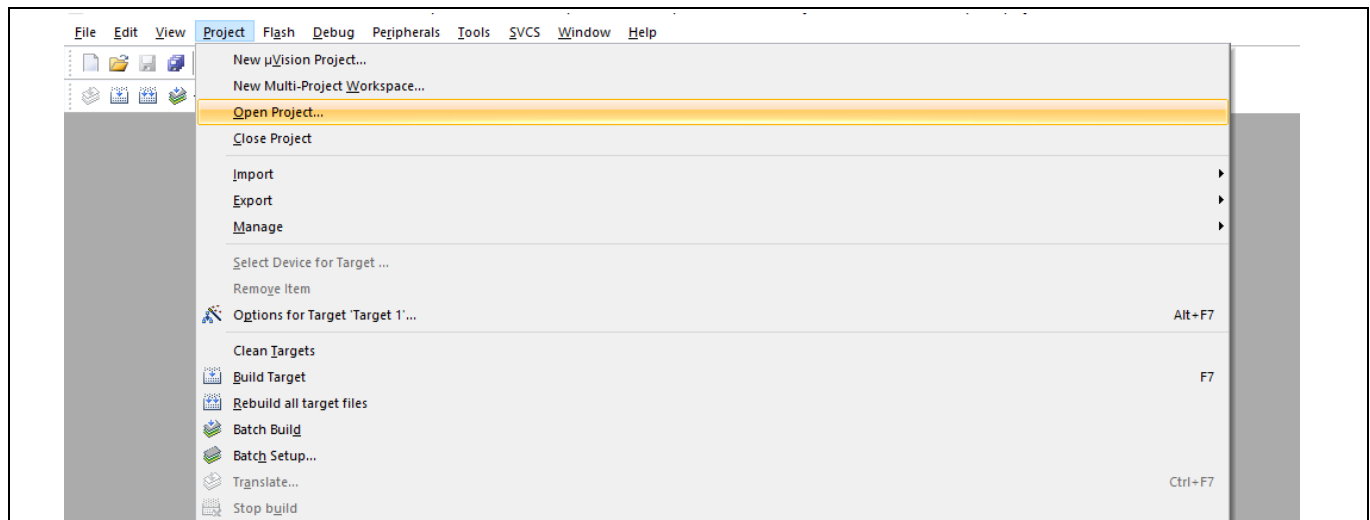

Figure 10 Keil µVision® IDE Open Project
- 2) Open one of our use case example codes in µVision® IDE as shown in Figure 10.